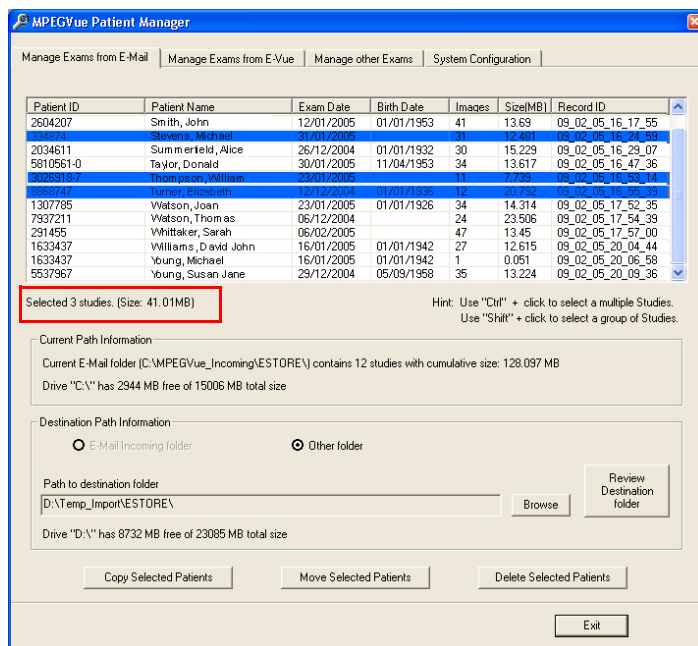

Figure 3-182 Exams Selected
- b.) Select the required exam or exams, as shown in Figure 3-182.
The currently-selected exams are now highlighted in the list and, as shown in Figure 3-182, the cumulative size of the 3 studies is displayed below.